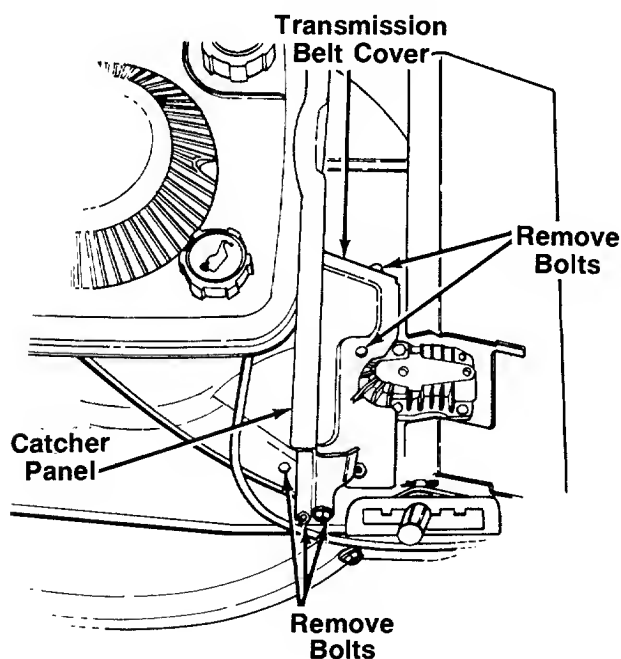

FIGURE 25.
3. Remove the transmission belt cover as follows. See figure 25.